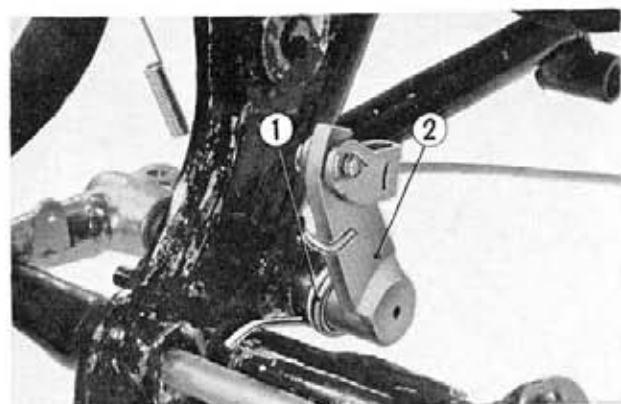

Fig. 14-16 ① Rear brake return spring
3. Unhook the rear brake return spring, and remove the rear brake shaft. (Fig. 14-16)